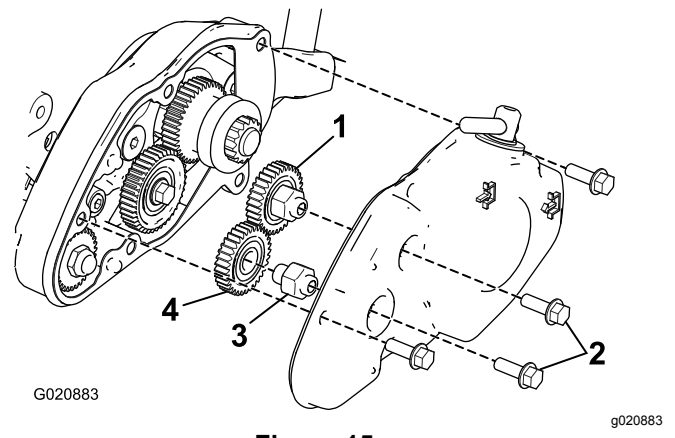

Figure 15
5. Press fit the center gear removed previously onto the hub (Figure 15).
6. Install the center gear and hub assembly and the gear assembly, from the forward rotation kit, to the cover with 2 flange-head bolts as shown in Figure 15.